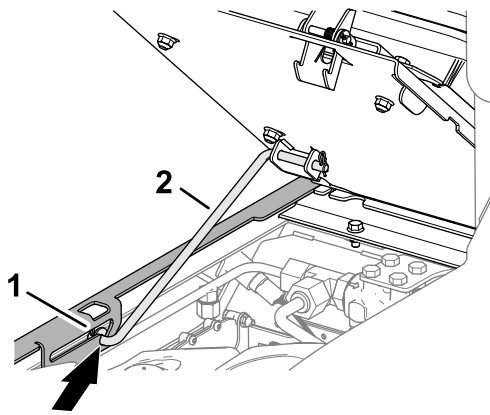

Figure 52
3. Ensure that the forward prop rod seats in the slot detent of the seat support (Figure 52).